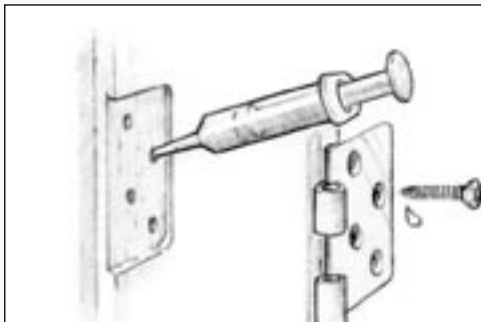

Figure 15 Wet out a standard pilot hole and install the fastener.
- Wet out a standard-size pilot hole and work the resin/hardener mix into the hole with a pipe cleaner or syringe (*Figure 15*). Thicken a second coat of epoxy as necessary for stripped or oversized holes.